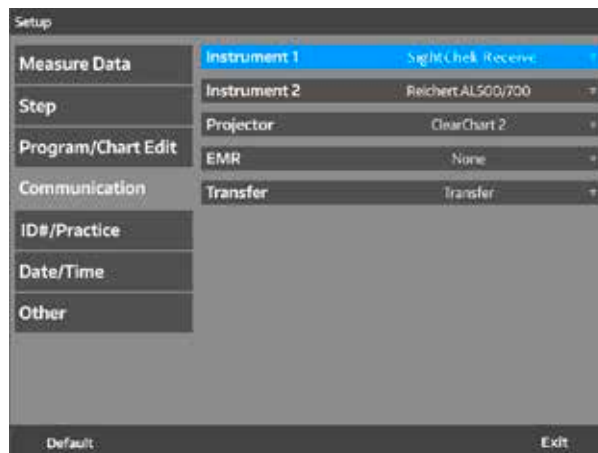

Figure IS-38 Settings Menu
1. Touch either **INSTRUMENT1** or **INSTRUMENT2** to add or edit auxiliary equipment connection settings. Refer to Figure IS-38.
1. Touch **PROJECTOR** on the Communication menu. Refer to Figure IS-38.